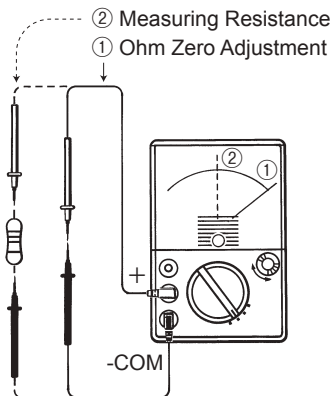

Fig. 2
- (1) Insert the red test lead into the +terminal and the black test lead into the –COM terminal.
- (2) Set the range selector switch to the desired range position.
- (3) With the test lead tips shorted together turn the zero ohm adjust knob so that the meter pointer lines up with the zero mark at the right end of the ohm scale.
- (4) Turn off power to the circuit under test.
- (5) Connect the test leads to both ends of the circuit under test and take the reading (Fig. 2).